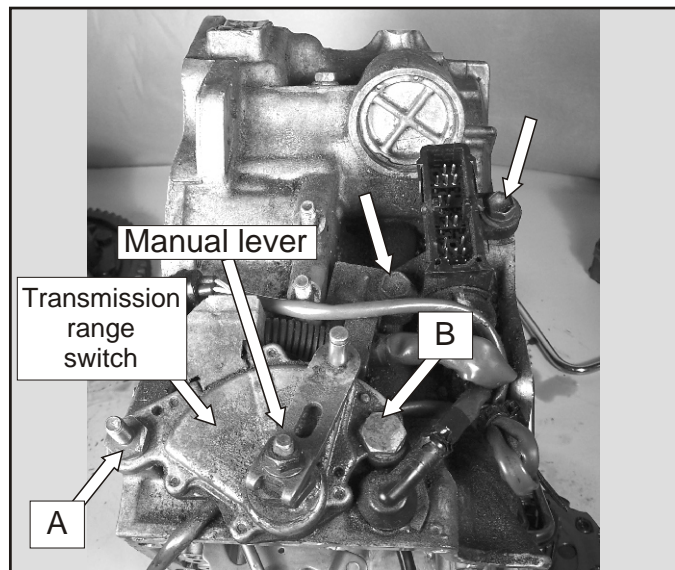

Figure 90
39. Remove the 13mm headed nut retaining the manual lever and remove the lever. Remove the two 17mm headed transmission range switch to case retaining bolts. **Note:** *the bolt lengths are as follows, A = 21mm long and B = 32mm long.* Remove the two 14mm headed connector retaining bolts. **Note :** *the bolt lengths are 20 mm long.* See Figure 90.